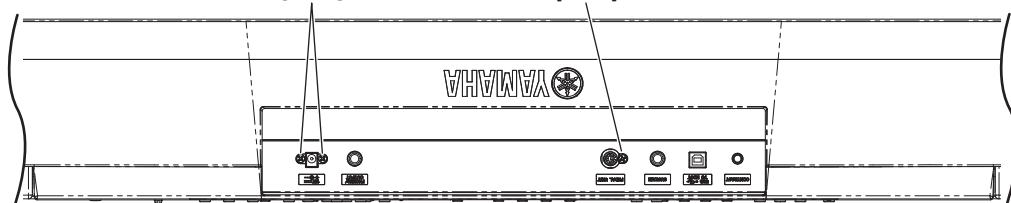

Fig.3
- 2-2 After removing the upper case assembly, remove the following screws. Each circuit board and assembly can then be removed. (Fig.3)(Table 1)
*1 When assembling it, tighten the screw marked 1, 2 and other screws in this order. (Fig.3)
*2 As for the screw at the location of A, it is tightened together with a cord holder. (Fig.3)
*3 The PNR and the ENC circuit boards are connected with a board-in connector. (Fig.3)
*4 As for the three (3) screws, they are tightened together with a bracket. (Fig.3)
*5 The MKO circuit board is used as a flat cable holder. (Fig.3)
*6 As for the screw at the location of B, it is tightened together with a cord holder. (Fig.3)
*7 When assembling it, tighten the screw marked 1, 2, 3, 4 and other screws in this order. (Fig.3)